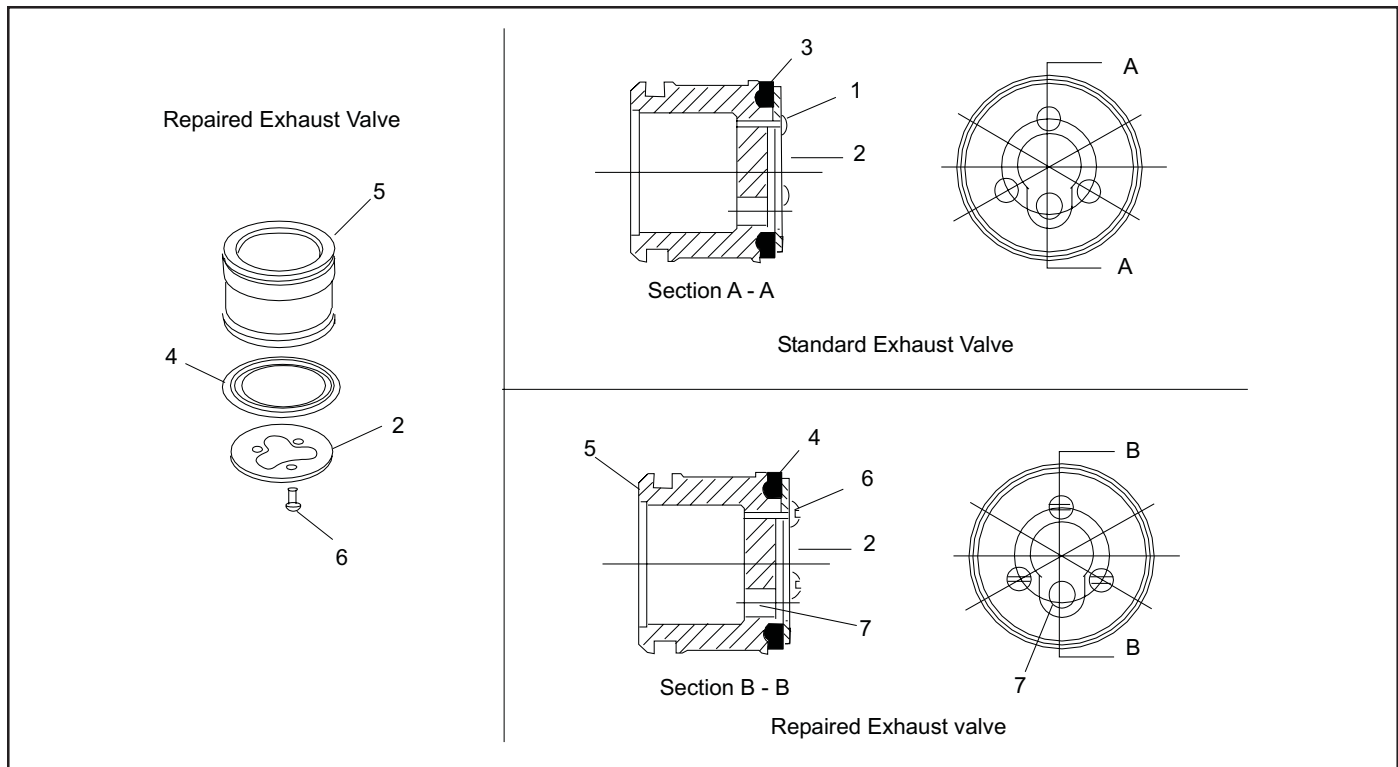

Figure 4 - Exhaust Valve - Drawing G-100
9.2.5.7.1 Refer to Figure 4. If driven fasteners are installed, use a piece of $1/16$ " diameter rod to drive out the three fasteners (1). **SCRAP** the fasteners. If screws are installed, remove the three screws (6).
⚠ 9.3 ASSEMBLY (Refer to Figure 4)